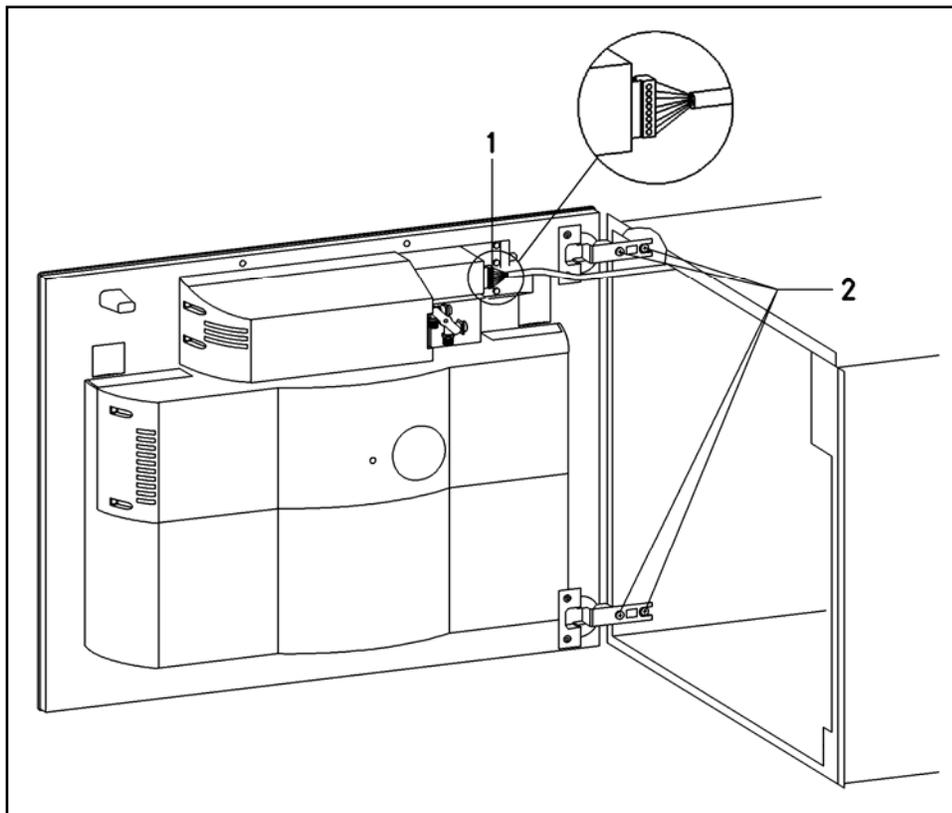

Figure 5-5: CVA4070 Door Retaining Screw Removal
- Disconnect the plug to the power electronic (Figure 5-5, Item 1).
- Release the teflon hoses from their connector and pull out (Figure 5-5, Item 2).
- Remove the screws of the door hinges (Figure 5-5, Item 2).